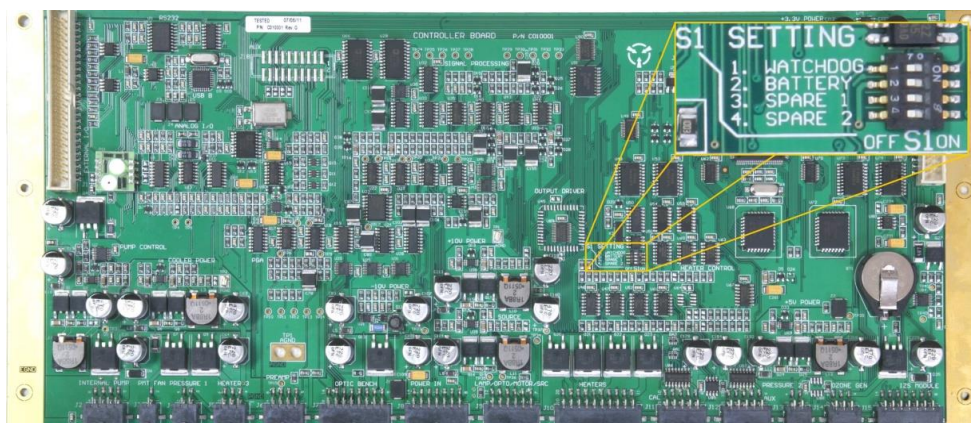

Figure 7 – Switching the battery on/off
3. Check that the battery is turned on at the main controller PCB (refer to Figure 7).
3. If storing over a long period (6 months) turn the battery off by moving the switch on the main processor board (shown in Figure 7) to the left.